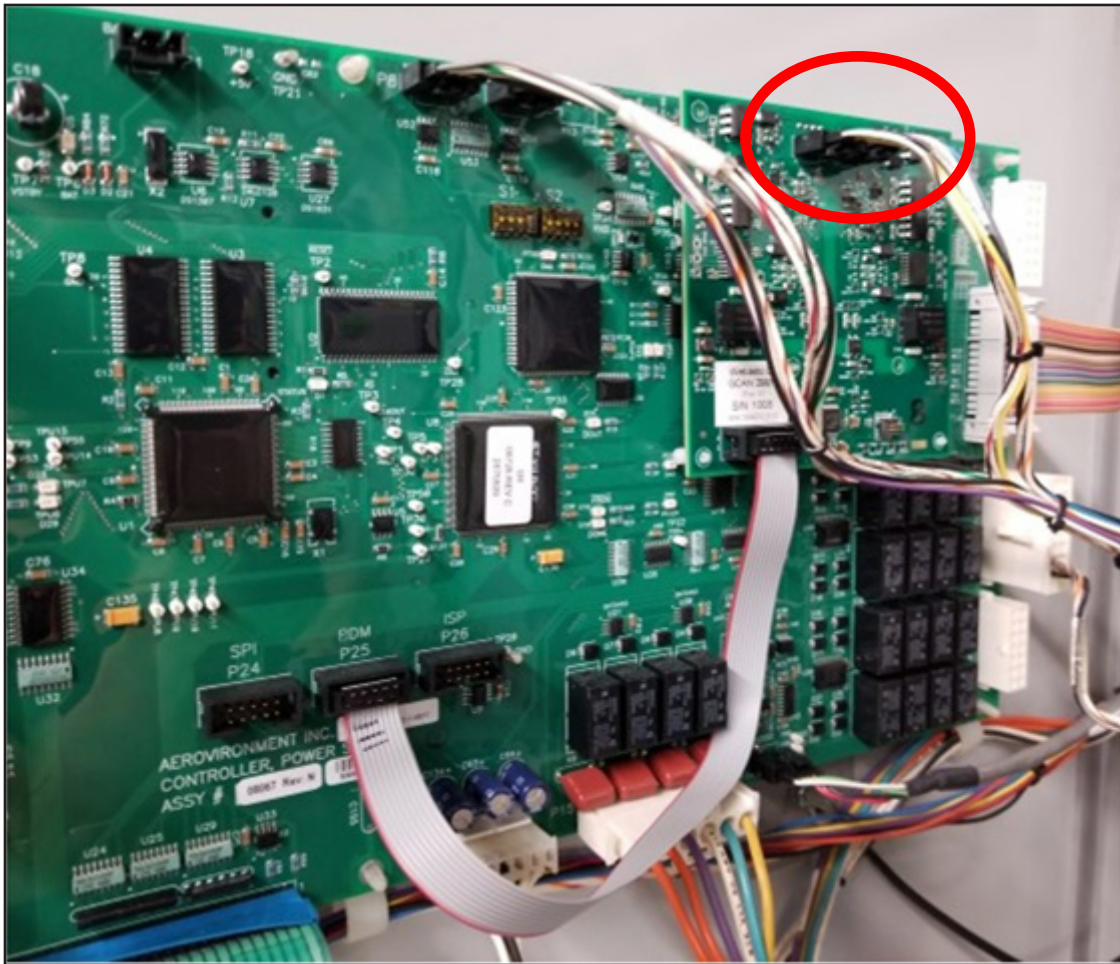

Figure 9 P6 and P7 Cables on the GSE Control Board Connected to the Corresponding Ports on the GCAN Board
3.3.4 – Connect the P6 and P7 cables on the GSE control board to the corresponding ports on the GCAN board (Figure 9).